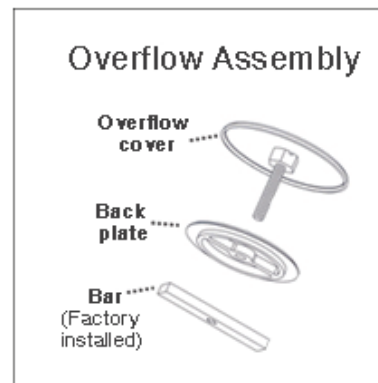

figure 5
12. Connect tail piece assembly to drain body (figure 5).